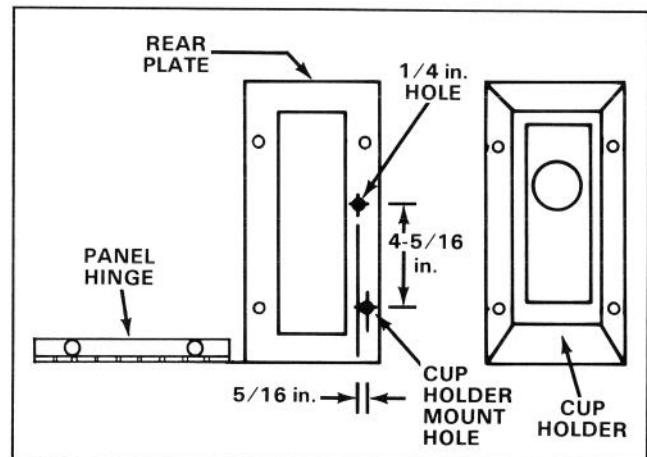

Figure 5
- Remove the cup holder assembly at the rear of the control box assembly (Fig. 5).
- Locate the cup holder mount hole rearward of the control panel hinge (Fig. 5). Measure $5/16$ in. forward from the hole center and scribe a line fully across the plate (Fig. 5).
- From the center of the cup holder mount hole, measure $4-5/16$ in. on the scribed line. Center punch and drill a $1/4$ in. hole (Fig. 5).